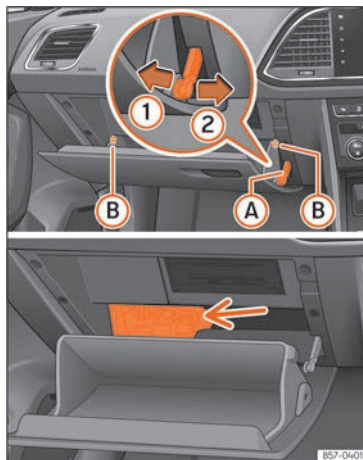

Fig. 198 Right-hand drive vehicles: fuse box cover under the passenger side dash panel.
- Undo the opening limiter >>> Fig. 198 (A) in two steps: first, unlock the limiter by pulling back on it (arrow ①) and then move it gently to the right (arrow ②). Remove the guide when the cover is in the normal opening position (30°).
- Free the side pivots (B) to release the cover to its second opening position (60°).